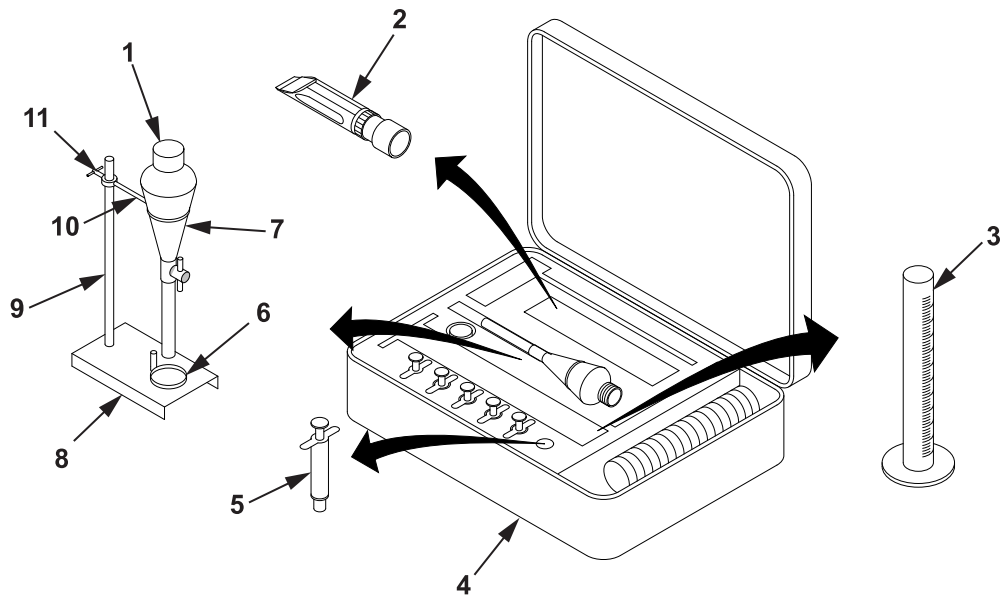

Figure 6. FSII Sample Test Kit.
1. Loosen T-handle (Figure 6, Item 11) on ring (Figure 6, Item 10).
2. Remove ring (Figure 6, Item 10) from rod (Figure 6, Item 9).
3. Return test kit stand (Figure 6, Item 8), rod (Figure 6, Item 9), ring (Figure 6, Item 10), funnel bottle (Figure 6, Item 7), two foil dishes (Figure 6, Item 6), graduated beaker (Figure 6, Item 3), piston type pipet (Figure 6, Item 5) and funnel bottle cap (Figure 6, Item 1) to test kit case (Figure 6, Item 4).
4. Place refractometer (Figure 6, Item 2) in box and return to test kit case (Figure 6, Item 4).